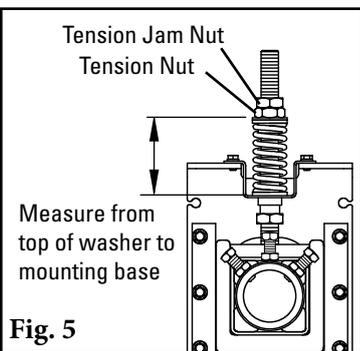

Fig. 5
- Set the blade tension.** Loosen the top tension jam nuts on both sides. Turn the tension nuts until the correct spring compression is reached (Fig. 5). Spring compression is determined by spring length. See the chart at right for the correct spring length for your belt width.
- 5. Replace the sleeve.** Position the sleeve over the adjusting rod and turn it until it is in the middle of the bushing. Replace the bottom tension nut and tighten until it locks the sleeve in place (Fig. 5).